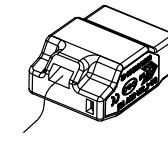

Figure 4
5. Test slot is located at front for voltage testing (Figure 4).